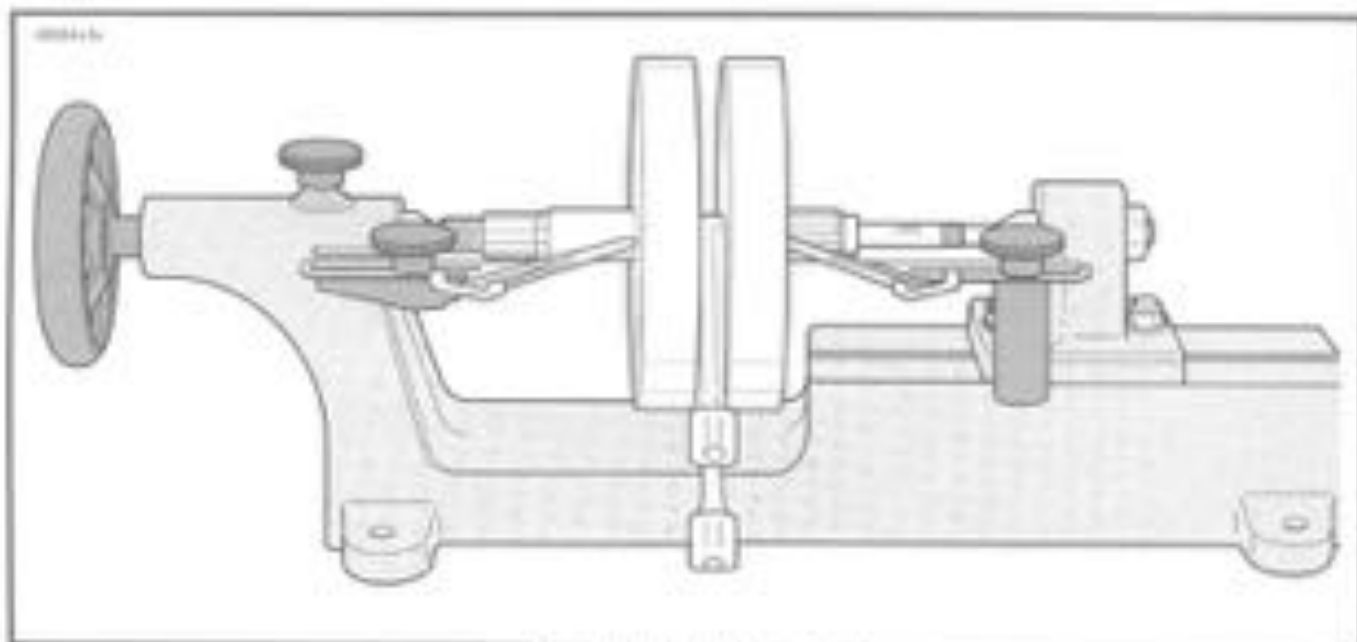

Figure 3-83. Truing Flywheel
8. Tighten crank pin nut to 150-180 ft-lbs (203-251 Nm) torque. See Figure 3-83. Install flywheel assembly in Harley-Davidson FLYWHEEL TRUING DEVICE (Part No. HD-96650-00) as shown. Adjust so centers are snug. Wheels must turn freely; however, shafts must not be loose in centers. If flywheel assembly is either loose or squeezed, indicators will not indicate accurately. Adjust indicators to take reading as near to flywheels as possible, so pointers read all about the middle of the scales.